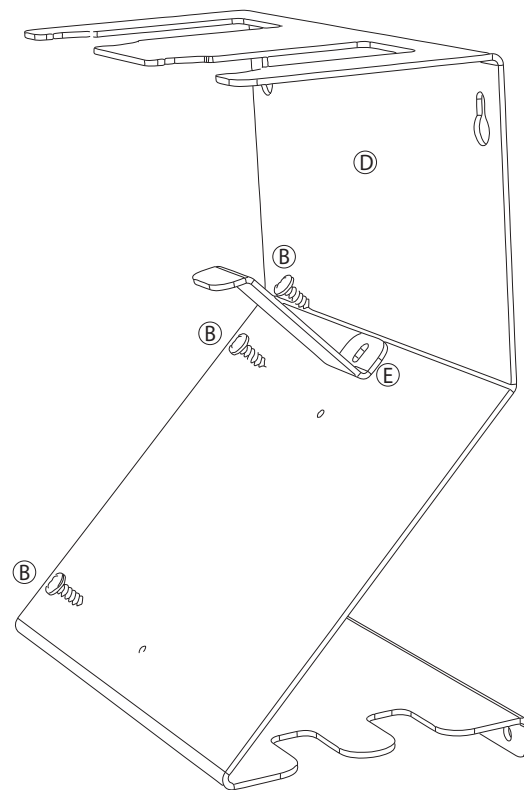

FIG. 1
Step 2 – Mounting the Charger FIG.1
The Locking Tab (E) will securely hold the charger to the mount. The locking tab is installed with one #8x1/2" Screw. Position the tab as shown in Fig. 1. It helps to installed this screw with an extension on your impact driver. The tab is slotted to allow it to be slid tight against the charger. Tighten the screw to snug the tab against the charger.